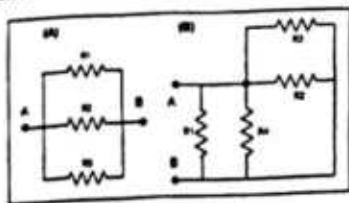

Fig. 8 Parallel resistance
When two or more resistors are individually connected between two points they are said to be in a parallel combination. A parallel circuit allows more than one path for the flow of electrical current. Figure 8 shows some examples of the parallel combinations of resistors.
Figure 8(A) shows resistors R_1 , R_2 , and R_3 connected in parallel between the points A and B. Figure 8(B) shows resistors R_1 , R_2 , R_3 , and R_4 connected in parallel between the points A and B.